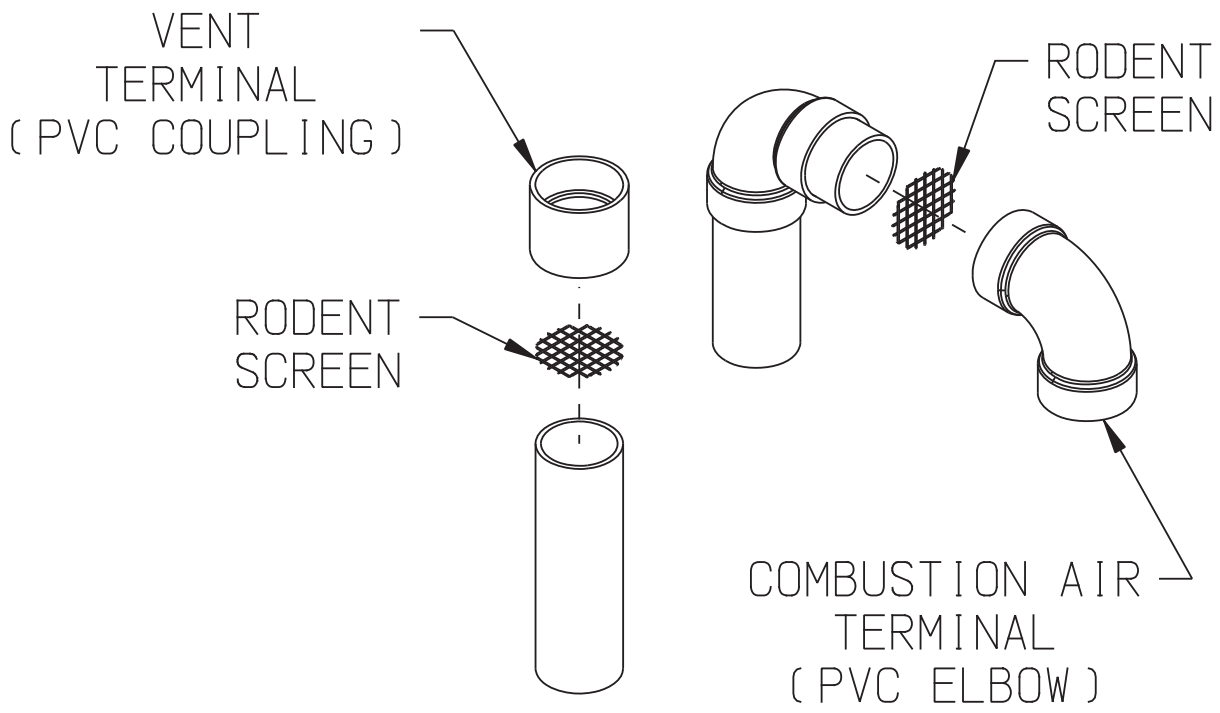

FIGURE 7.21: INSTALLATION OF STANDARD VERTICAL TERMINALS
- a. See Figure 7.21 for the proper orientation of twin pipe vertical terminals.
- c. A 180° bend (or two 90° elbows) are installed on the top of the air intake pipe. If two 90° elbows are used, the rodent screen provided can be installed between them (Figure 7.21). If a 180° bend is used, install the rodent screen in the open side of the bend, using a ring made of PVC pipe. If desired, the termination fittings can be attached to the end of the vent and/or intake pipes with field supplied stainless steel screws so that they can be later removed for cleaning and inspection. If this is done, drill a clearance hole in these fittings and a tap hole in the end of the vent/intake pipes to accept these screws.